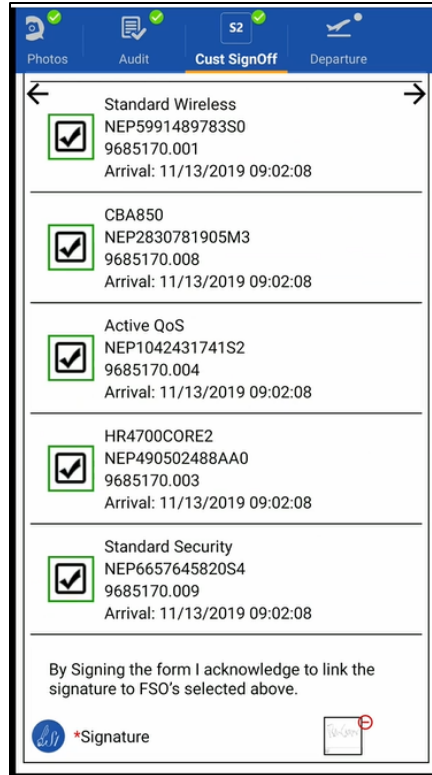

Figure 85: Customer signoff list of devices
1. Use the dropdown menus to answer questions for the machine and installation equipment (bucket truck or extension ladder) used (Figure 85).